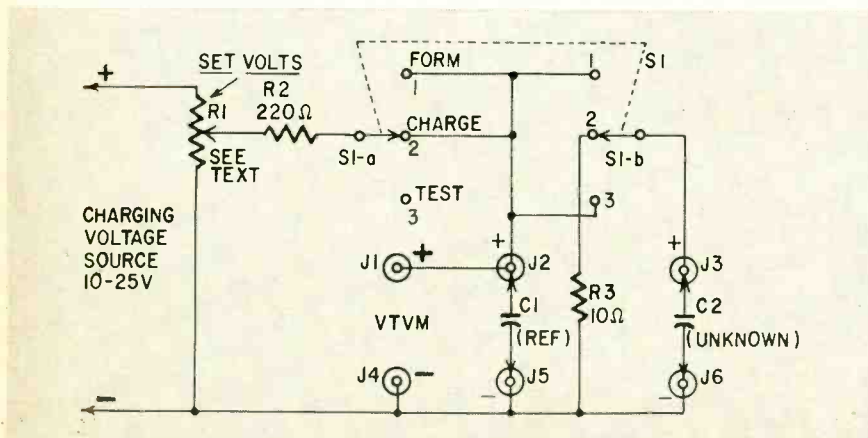

Fig. 1—Unknown electrolytic capacitors can be reformed, discharged and measured in a 1-2-3 procedure at the flip of S1. Voltage levels can be set by control R1.
simple circuit shown in Fig. 1.
1. Connect the charging-voltage source and the vtm as shown in Fig. 1. Turn R1 (SET VOLTS) to reduce the meter reading to zero.